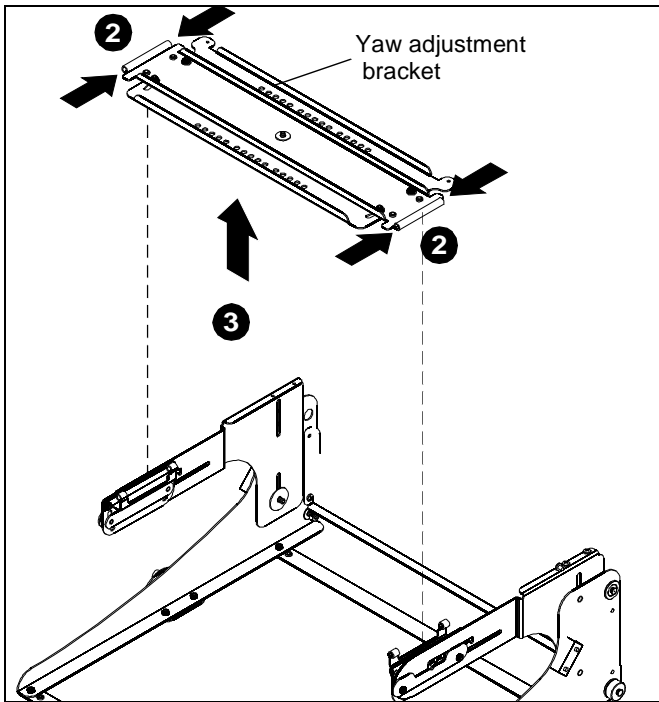

Figure 11
2. Press in end tabs on both ends of yaw adjustment bracket and lock into place. (See Figure 11)
3. Remove the yaw adjustment bracket from the SL236i by lifting up. (See Figure 11)